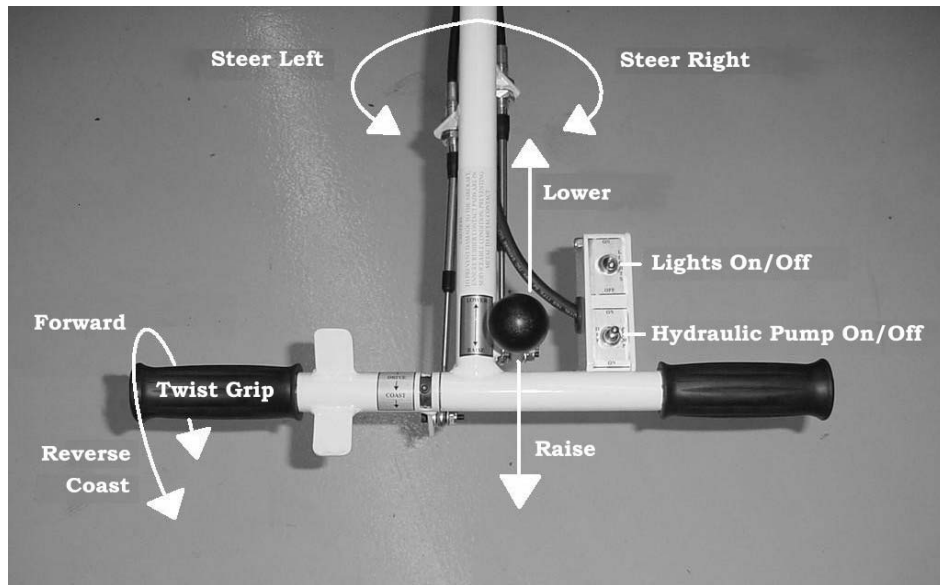

Fig. 1
1. Rotate the twist grip (see Fig. 1) to aft stop. With additional pressure, force the grip past stop to the “Coast” detent position. This position allows the *Heliporter*[®] to freewheel and be maneuvered manually.
3. Guide the *Heliporter*[®] between the skid gear by rotating the control handle assembly counter clockwise to turn left and clockwise to turn right (see Fig. 1). Maneuver the *Heliporter*[®] under the aircraft from front to rear.
8. The twist grip (see Fig. 1) controls forward and aft movement of the *Heliporter*[®], it also controls the throttle speed. The speed is determined by the degree of rotation to the twist grip. A small rotation will move the *Heliporter*[®] slowly and full rotation will move the *Heliporter*[®] at full speed of 2.5 mph.
9. To move a helicopter while being supported on the lifting platform, engage the hydraulic pump switch and rotate the left hand grip forward *slowly* to move rearward. To move forward, rotate the left handgrip *slowly* aft (See Fig. 1).